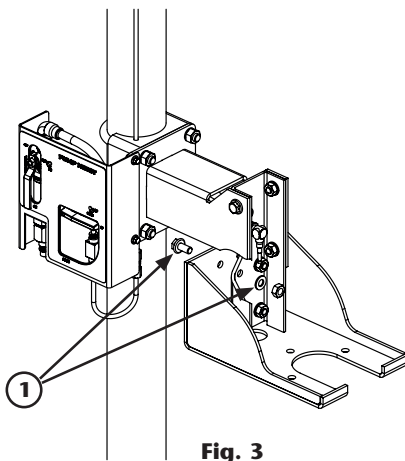

Fig. 3
1. For models (391020, 391020.270, 391023, 391021): Place the pump support and screw the bolts (1) (fig. 3).